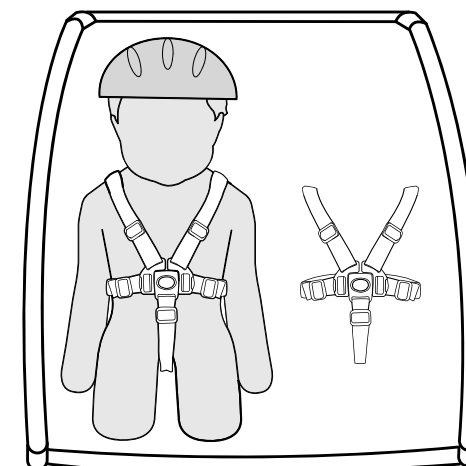

Figure 26
3. When using double trailer with one child, always seat the child in the right side position (Figure 26).